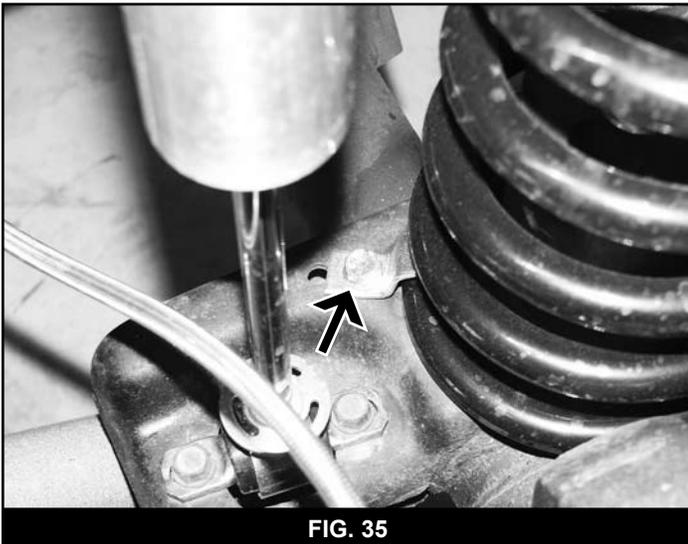

FIG. 35
92. Install the provided coil spring retainers (01379) using the existing holes in the each front coil axle mounts (Fig 35) and  $\frac{5}{16}$ " x 1" self-tapping bolts (BP 754).